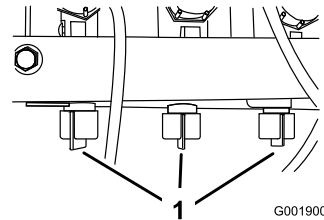

Figure 29
12. Adjust the boom bypass valve (Figure 29) under the boom control valve for the boom you turned off until the pressure reading on the gauge is the same as it was in step 9.